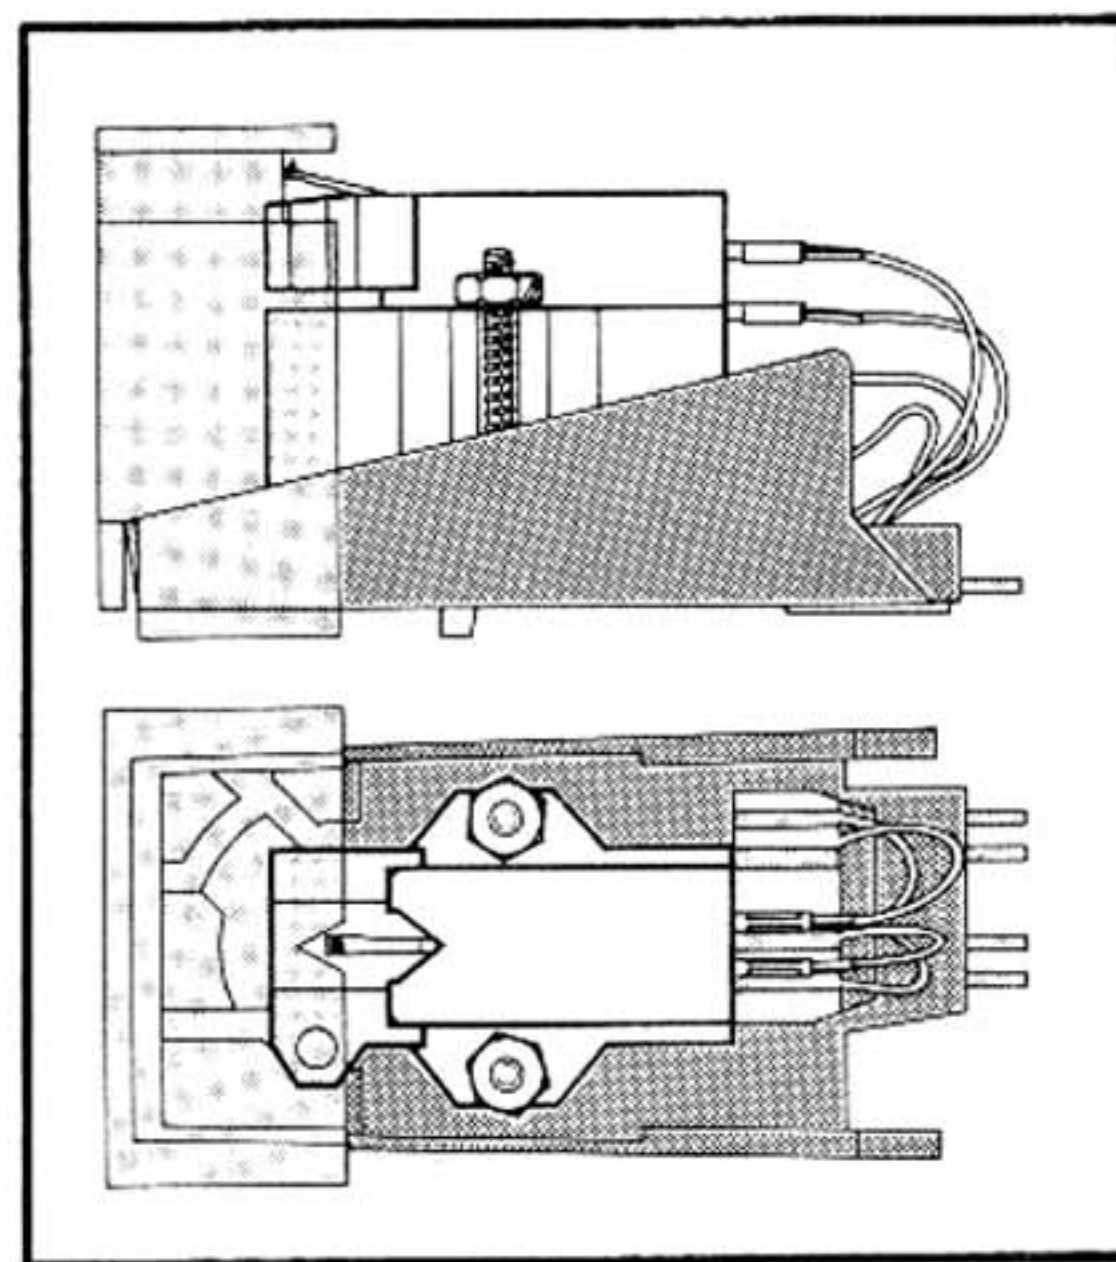

Fig. 12. Gauge for checking correct depth of cartridge and overhang of stylus.
2. From the hardware supplied with either your Dual or with your cartridge, select a pair of spacers and screws that will place the stylus tip at the correct depth from the top of the holder. The special gauge supplied with your Dual, when held against the holder as shown in Fig. 12, will give you this proper depth for the correct vertical tracking angle, plus the correct stylus overhang position for minimum horizontal tracking error. When the stylus is at the correct depth and position, it will be within the notch of the gauge.